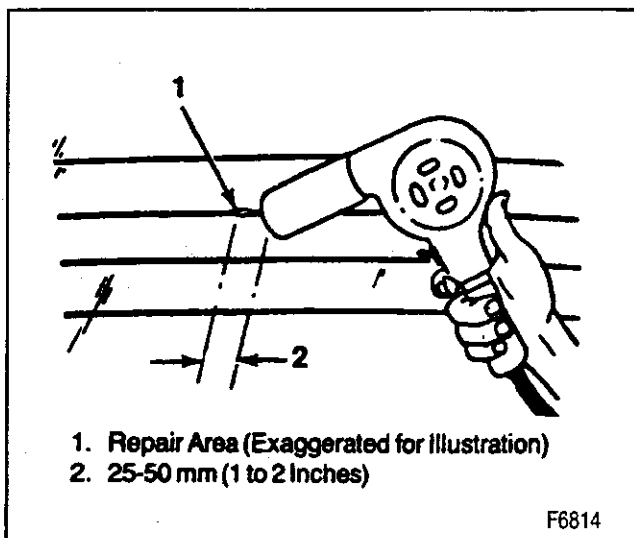

Figure 15—Applying Heat to the Grid Line Repair
4. Holding the heat gun 25 to 50 mm (1 to 2 inches) from the repair area, apply heat at 260° - 370° C (500° to 700° F) for 2 to 3 minutes (figure 15). If a heat gun is not available, allow the repair to air dry at an ambient temperature of 20° to 39° C (70° to 90° F) for 24 hours.